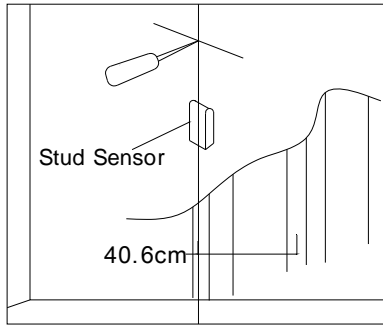
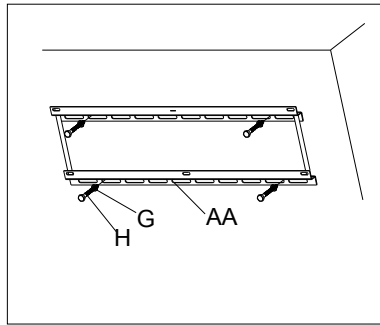

figure 2a
figure 2b
The wall bracket (AA) must be installed into two wood studs with a separation of at least 40.6 cm (16"). Use a stud finder to locate two adjacent studs. Using an awl or thin nail, verify the location of the wood stud (as shown in figure 2a). Drill two 7mm diameter holes to a minimum depth of 3.5" (88mm) in each wood stud. Then using four lag bolts (H) and four metal washers (G), install the wall bracket to the wall, ensuring correct orientation as shown in figure 2b.